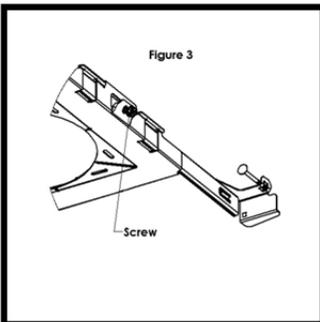

Figure 3
*Note: Plaster frame position can be locked by screws (Figure 3).*